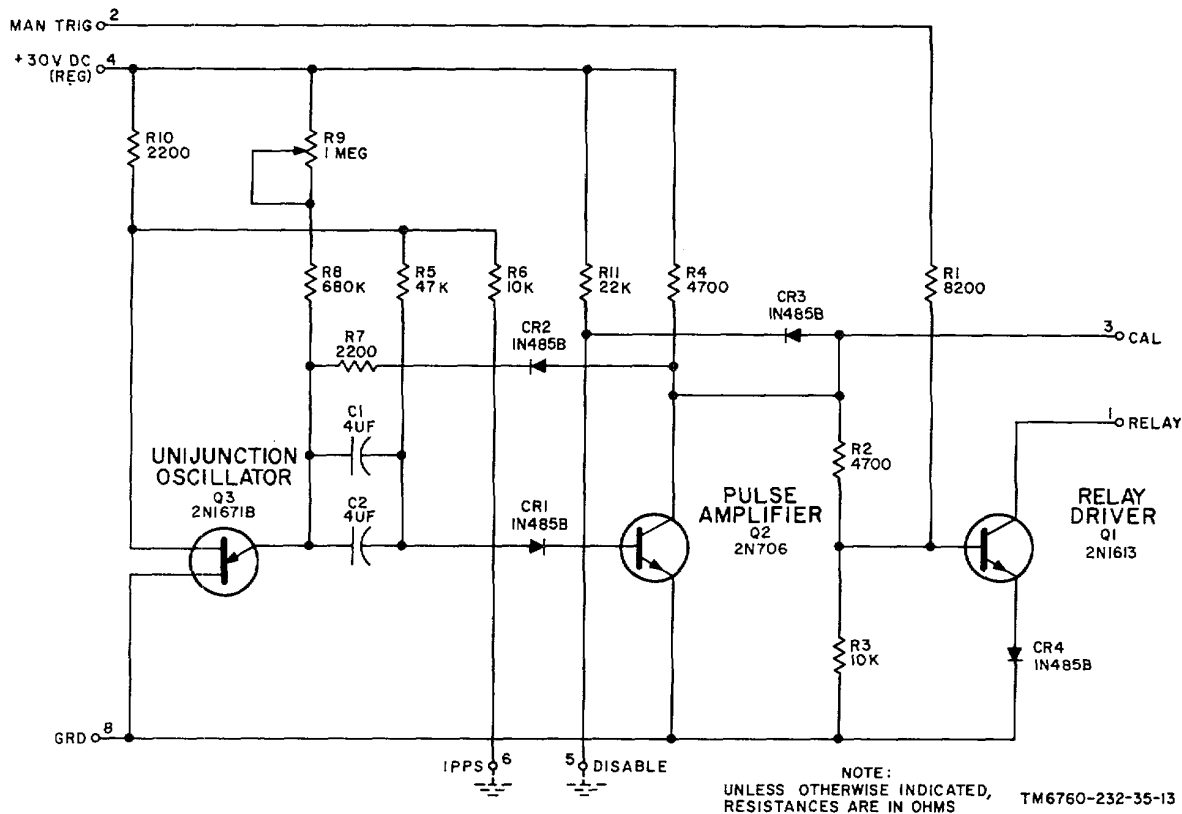

Figure 1-10. Input pulse generator A9, schematic diagram.
a. Input Pulse Generator A9 (fig. 1-10). Input pulse generator A9 drives camera frame pulse trigger Q22 which generates the simulated camera frame pulse. (In-flight the camera frame pulse is
b. generated by the KA-30 or KA-76 camera.) Taken together, Q2 and Q3 (fig. 1-10) constitute a fixed frequency, asymmetrical, a stable hybrid multi-vibrator. Functionally, Q3 is a unijunction oscillator and Q2 is a pulse amplifier. The unijunction was chosen as the switching and timing element in this